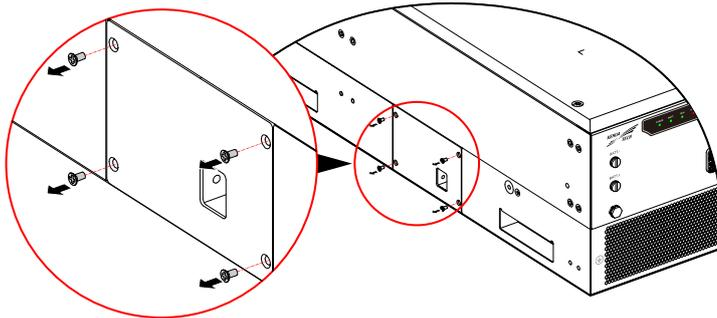

Figure6-1 Loosen the screws of fan cover
Step 2 Loosen the screws of the fan module, as shown in Figure6-1.